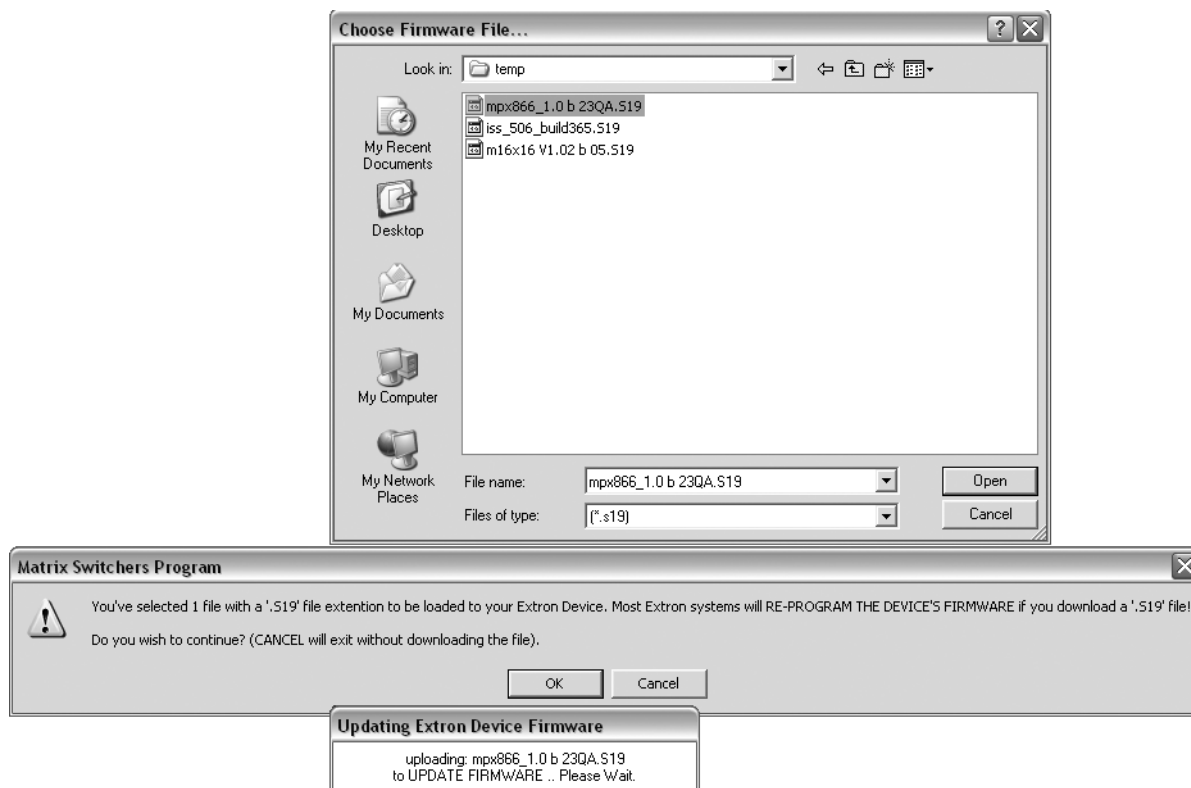

Figure 5-6 — Open file window and firmware load
4. Click **Tools > Update firmware**. The open file window appears (figure 5-6).